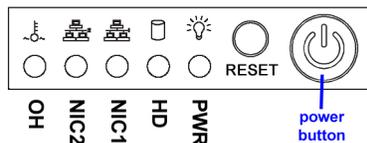
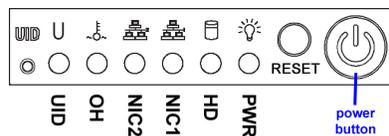

Fig. 7 - 500 model front panel, power button at far right
Fig. 8 - 700 / 730 model front panel, power button at far right
- C. Remove the bezel and press the large button at the right of the front panel (see Fig. 7 for a 500 model, and Fig. 8 for a 700 or 730 model).